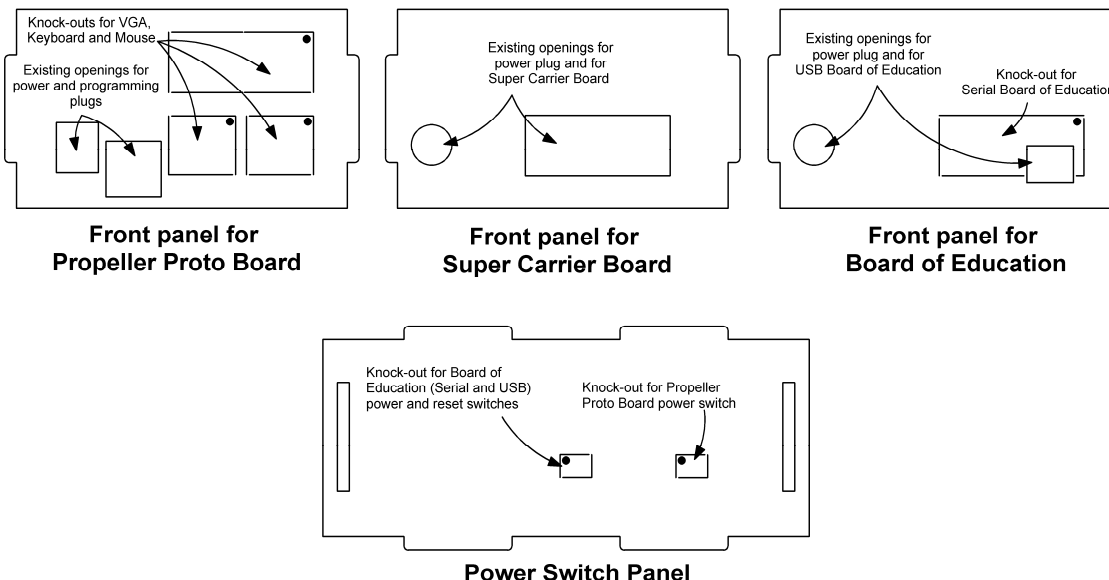

Figure 1
Step 1: Determine which end panel your board requires, and knock out any pre-cut areas as needed. To knock out an opening, gently press in the corner of each knock-out as indicated by the dots shown in Figure 1. You may wish to use a small file or sandpaper to smooth out any burrs.